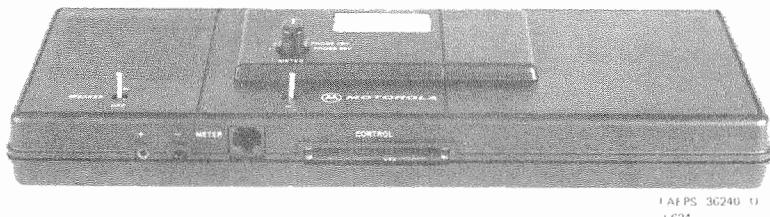

Figure 2. Radio Metering Panel — Edge View
**1.2** The RMP comes with a separate 40-conductor ribbon interface cable, a separate 8-conductor metering cable with "modular" connectors, two separate voltage probes and a set of housing rods that may be extended and inserted into the mounting rails inside the station cabinet. Refer to Figure 2 for the locations of the con-